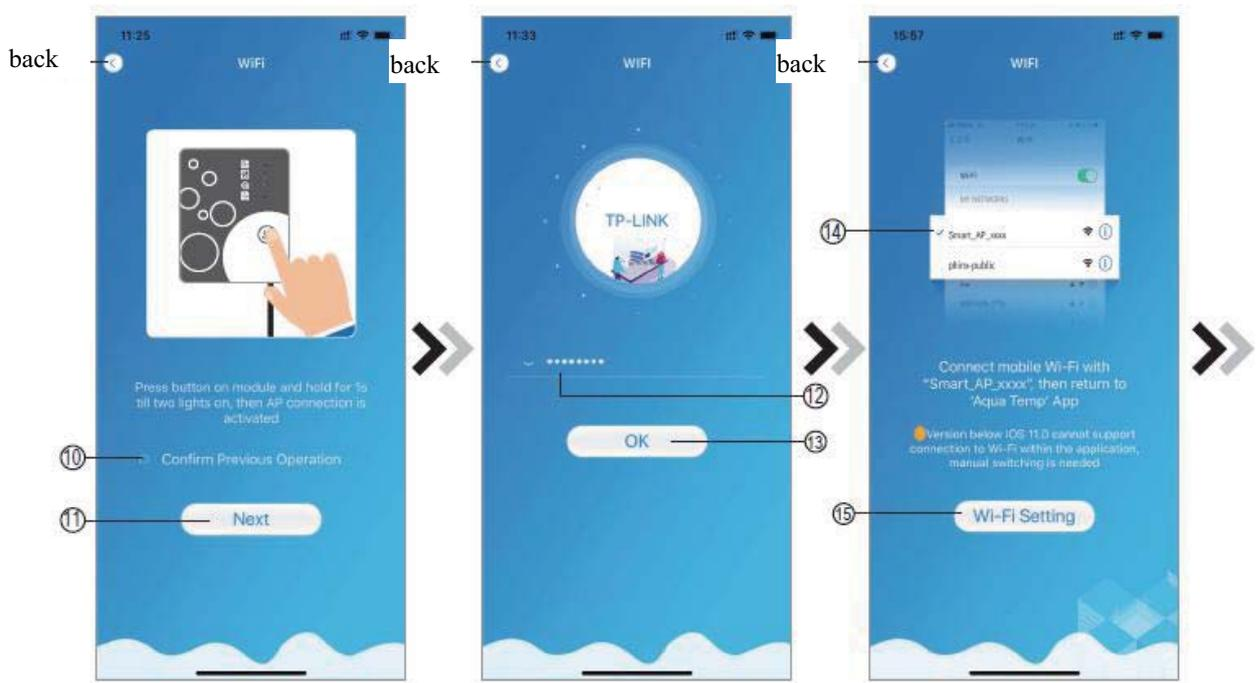

Fig.7 WIFI Module On interface    Fig.8 Enter password interface    Fig.9 Connect specified WIFI
1. Follow the instructions on the page (Fig.7), press button on module and hold for 1s till two lights on, then AP connection is activated, click (10) to confirm, click (11) to turn the page;
2. Click (12) to enter the WIFI password for the current connection, click (13) to confirm;